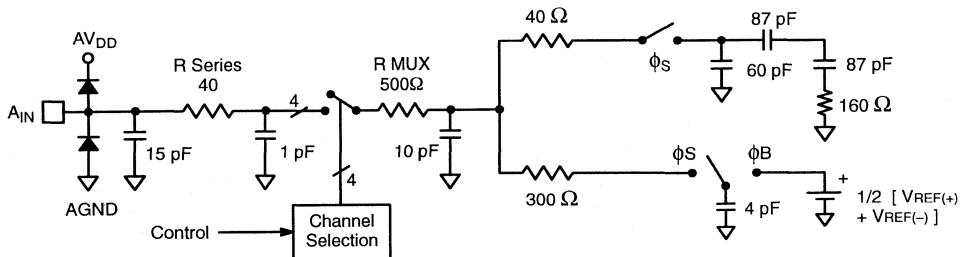

Figure 9. Analog Input Equivalent Circuit
- 3 See V_{IN} input equivalent circuit (see Figure 9).
The MP87098's performance is optimized by using analog input circuitry that is capable of driving the A_{IN} input. Figure 9. shows the equivalent circuit for A_{IN} .